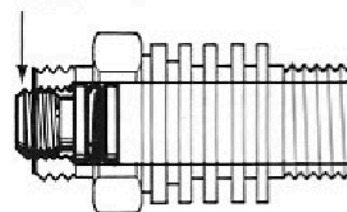

Figure 11
17. With a medium flat blade screwdriver or Arctic In-line Adjustment Tool, turn the crown (item 19) clockwise until the first two threads of the crown are visible at the end of the inlet fitting (item 20). See figure 11.
18. Lightly lubricate the O-ring (item 21) and install it on the crown side of the inlet fitting (item 20). Place a small amount of silicone grease on the first two threads of both ends of the inlet fitting.
19. While depressing the lever (item 7), thread the inlet fitting (item 20) clockwise into the box bottom (item 2), first by hand, then tighten the inlet fitting with a 19mm torque wrench to 55 inch-pounds.
20. Mount the spring (item 22) on the purge button (item 23). Place the purge button and spring assembly on the box top (item 24) and compress the spring until the four (4) arms of the purge button snap into place.
21. Place the diaphragm (item 25), with its metal plate facing the lever (item 7), into the box bottom (item 2), followed by the thrust washer (item 26). Next, thread the box top (item 24) clockwise onto the box bottom; first by hand, then snug it in place using the box top wrench..